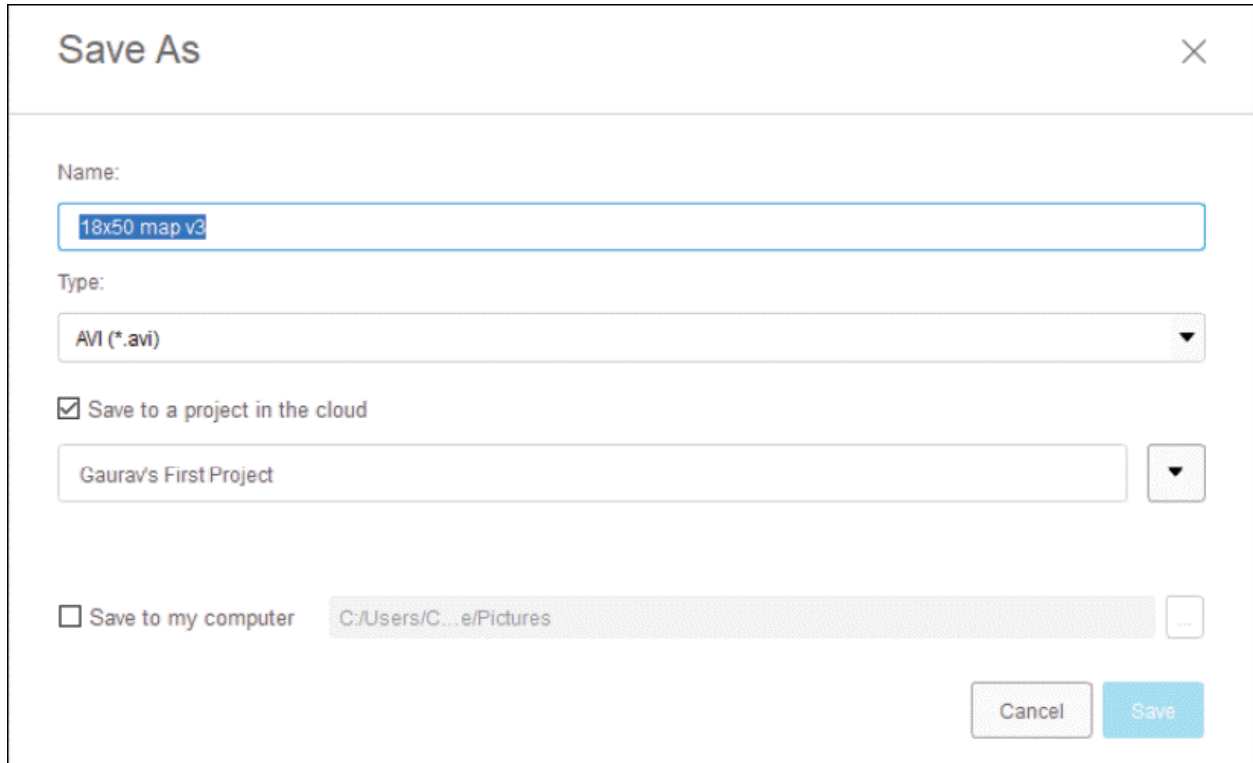

Figure-56. Save As dialog box for Publish Video tool
- After specifying the parameters, click on the **OK** button from **Video Options** dialog box. The **Save As** dialog box will be displayed; refer to Figure-56.